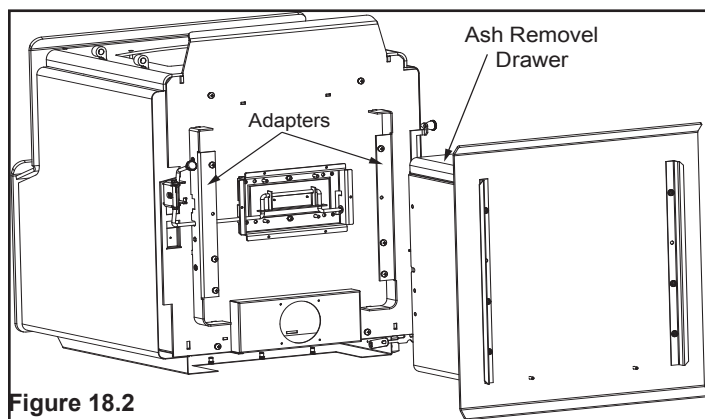

Figure 18.2
3. Lay appliance on its back on a protective pad or pallet (**Figure 18.2**).
4. Remove heat shield by loosening the four bolts using 3/8 open end wrench (**Figure 18.2**).
5. Remove 8 nuts that hold the cover plate on using a 7/16 socket wrench; discard cover plate (**Figure 18.2**).
6. Remove knock out from bottom of firebox by using a hammer (**Figure 18.2**).
3. Lay appliance on its back on a protective pad or pallet (Figure 18.2 on page 18).
4. Remove heat shield by loosening the four bolts using 3/8 open end wrench (Figure 18.2 on page 18).
5. Remove 8 nuts that hold the cover plate on using a 7/16 socket wrench; discard cover plate (Figure 18.2 on page 18).
6. Remove knock out from bottom of firebox by using a hammer (**Figure 18.2 on page 18**).